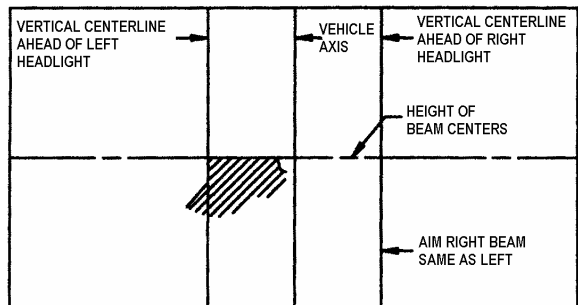

FIGURE 44: HIGH-INTENSITY ZONE (SHADED AREA) OF A PROPERLY AIMED LOWER BEAM ON THE AIMING SCREEN 7.6 M (25 FT) IN FRONT OF VEHICLE 06504
6. Low beam headlights are aimed so that the top edge (the cutoff) of the high-intensity zone is at the vertical location as per Table 1 and the left edge of the high-intensity zone is at the vertical centerline of the headlight (Fig. 44).